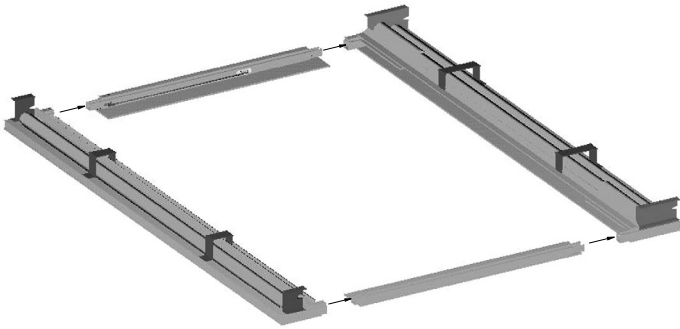

Figure 1
1. Connect the four frame pieces by matching the colored tapes on the ends of the frame pieces. See Figure 1.